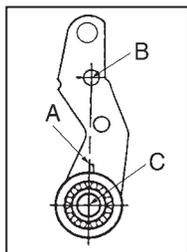

Figure 7
2. Tang of wrap spring (71) must be below, and must make contact with, wrap spring stop (76) when solenoid lever (28) is manually raised. If stop is bent outward, allowing tang to bypass it, rebend to square position, assemble correctly, and reset solenoid air gap as described in Paragraph 1.
3. Should air gap have decreased or disappeared, the solenoid lever and pinion assembly (8) may have become contaminated due to lubrication or residue as a result of overheating of brake. For reference purposes refer to Figure 7.